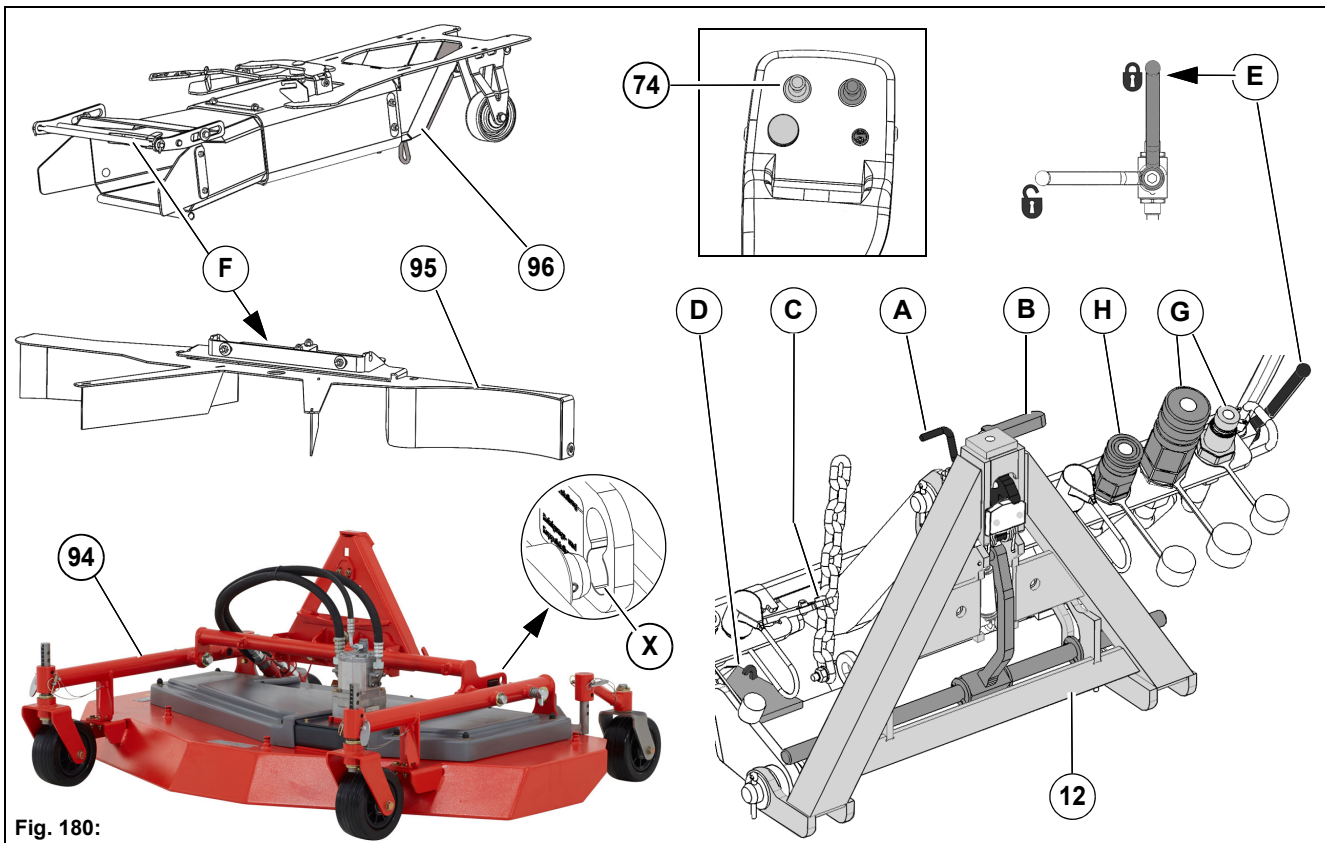

Fig. 180:
4. Unlock the locking hook **Fig. 180-A** and locking rod **Fig. 180-B** on the front tool carrier. The mower must be mounted in the coupling position **X**!
6. Raise the front tool carrier **Fig. 180-12** with the joystick **Fig. 180-74** and hook the chain **Fig. 180-C** on the hook **Fig. 180-D**.
8. Close the valve **Fig. 180-E** for raising the suction mouth in the raised position!
9. Lock the suction nozzle **Fig. 180-96** at the suction system with the bow **Fig. 180-F**.
- Max. 50 litres/min. – Supply/return (hydraulic circuit I) = **Fig. 180-G**
- Leakage oil pipe = **Fig. 180-H**